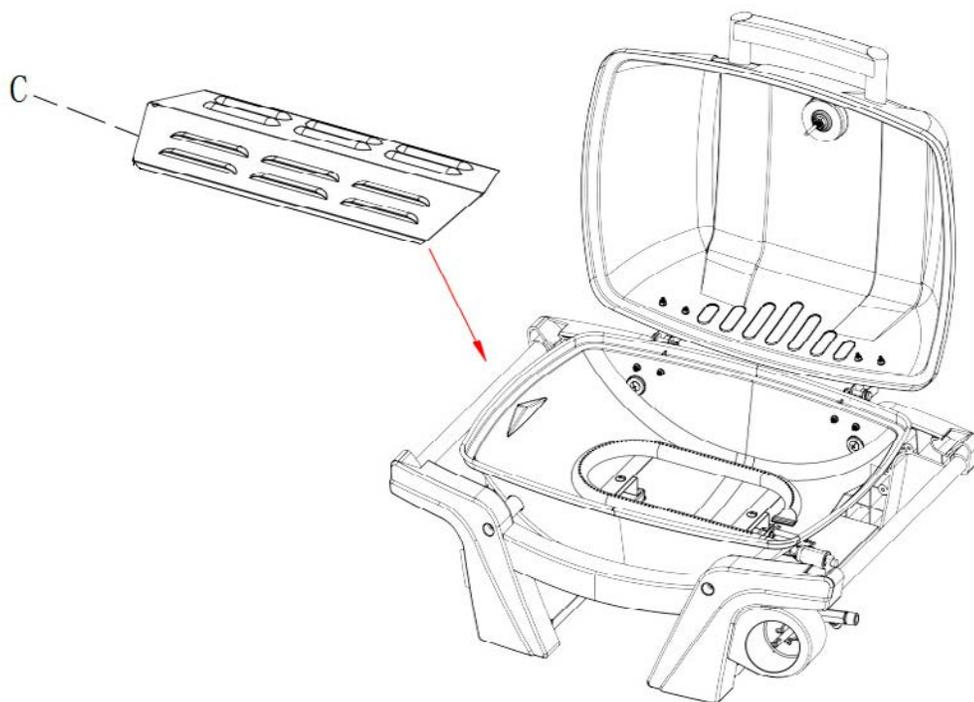

Figure 01.
Step3. Place and push Burner Control Knobs(F) in the right position as below.
Step4. Place flame tamer (C) in the fire bowl as shown in Figure 01.